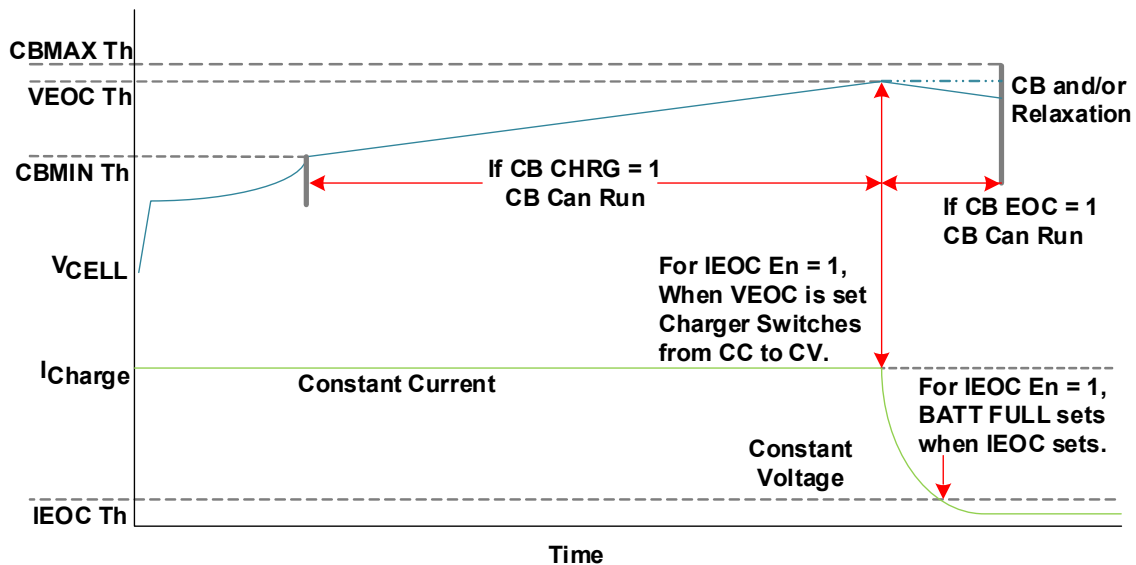

Figure 108. A Typical Charge Characteristic Curve
The ISL94216A has features that support both Constant Current (CC) and Constant Voltage (CV) charging. A typical charging profile for a battery cell is depicted in Figure 108. Cell balancing can occur only when the cell voltage is between the CBMIN and CBMAX limits, which are independent of CB EOC and CB CHRG bit settings.